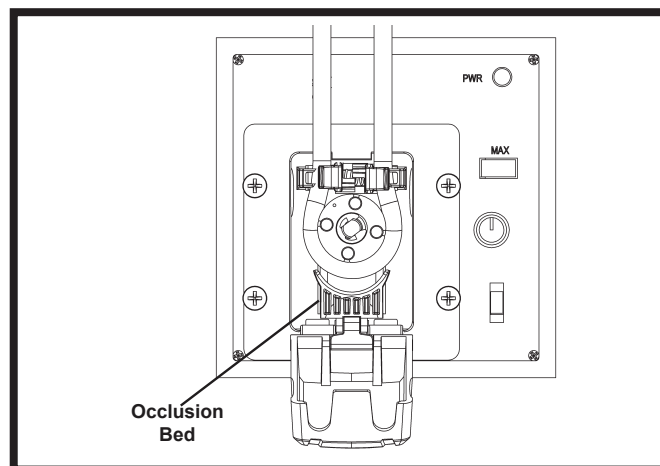

Figure 5. Closing Occlusion Bed
3. Once the tubing is in place, close the Door and the Occlusion Bed will automatically align itself within the pump, Figure 5.